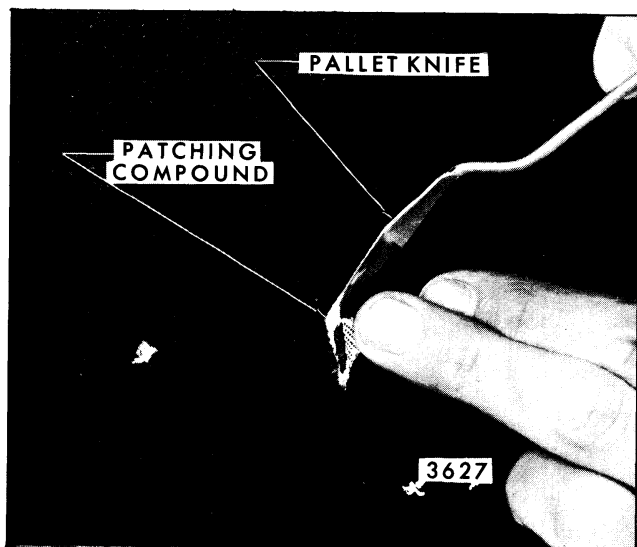
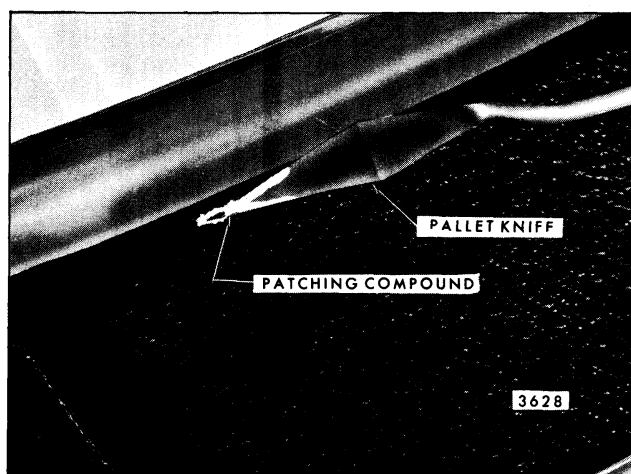

Fig. 8-34-Vinyl Repair Patching Compound Application
Fig. 8-35-Vinyl Repair Patching Compound Application
3. On damaged areas where no trimming was necessary, apply vinyl patching compound to edges of area as shown in Figure 8-34. Where trimming was required, apply compound to area being repaired and trowel flush with adjacent surface as shown in Figure 8-35. Remove any excess material (compound) with clean cloth.